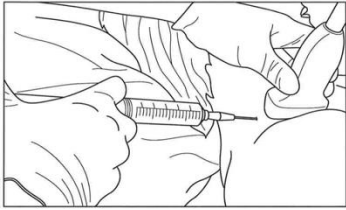

Fig 2
- By holding the attached syringe, insert needle and catheter assembly through puncture site on the skin and advance towards target nerve(s) under ultrasound guidance (Fig. 2).